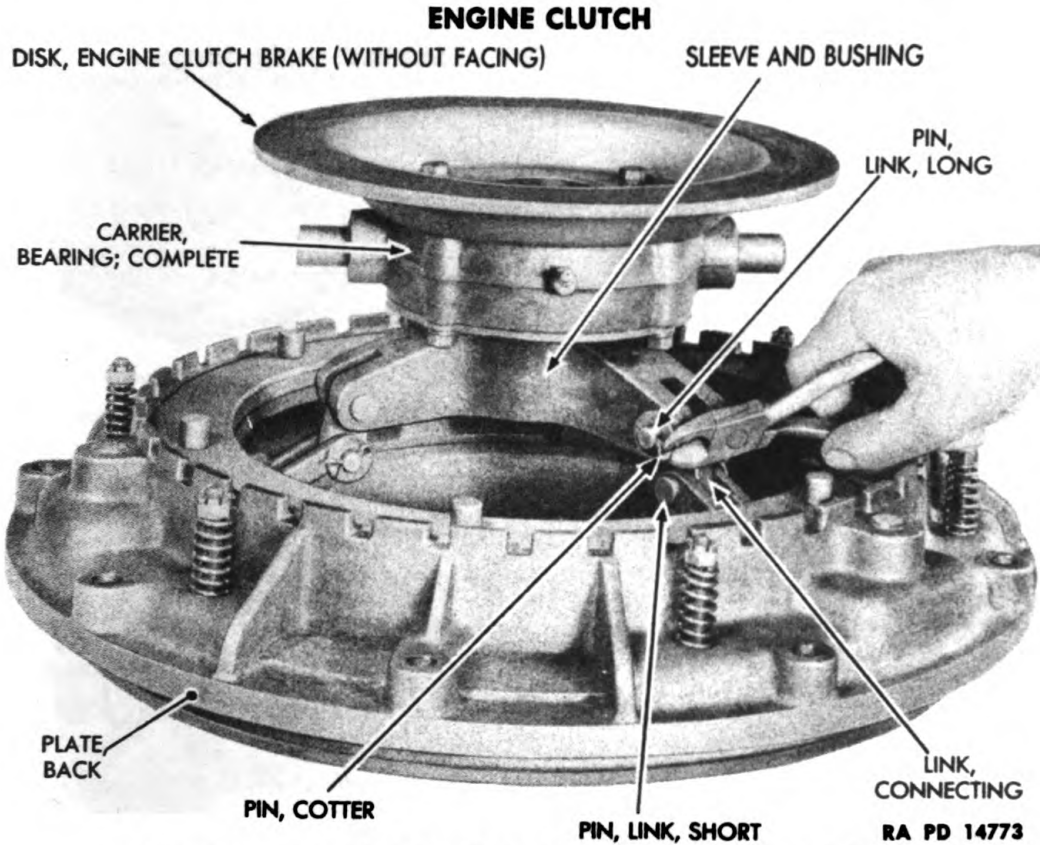

Figure 19 – Engine Clutch Brake Disk, Carrier and Sleeve, and Bushing; Removal
(3) REMOVE BRAKE DISK, BEARING CARRIER AND SLEEVE, AND BUSHING (fig. 19).